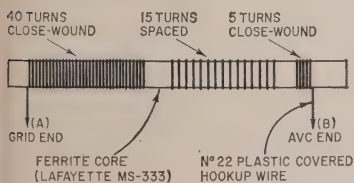
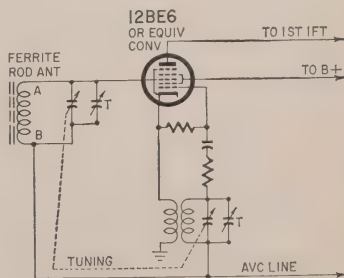

Fig. 1—Details of the finished ferrite antenna.
Fig. 2—How to hook up the ferrite antenna.
Fig. 1 and the photograph show exactly how the finished coil looks. Winding the coil is actually a minor project and takes less than one half hour. Approximately 10 feet of plastic-covered No. 22 solid hookup wire is used to wind the coil. Leave a 1-foot lead (A) for grid connection, start the coil 2 inches from the end of the core and close-wind
The vtvm or the human ear can be a versatile and sensitive output indicator for adjusting a ferrite antenna. Fig. 1 shows the antenna, coil spacing and number of turns. The coil's grid lead is A, and the avc lead is B. It is usually more convenient to adjust the coil before mounting the unit. Remove the loop antenna, and connect ferrite antenna leads A and B to the proper place on the receiver (Fig. 2). Connect a vtvm to the receiver's avc line for avc voltage output indications. Turn on the radio and tune in a local station in the vicinity of 1400 kc. Adjust the antenna trimmer on the tuning gang for maximum avc voltage.